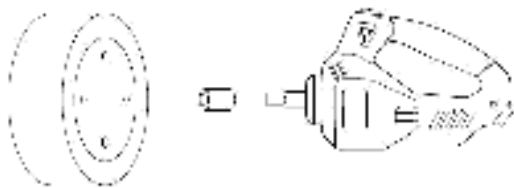

Figure 1
3. Choose the proper socket to attach to the wrench's shaft (check Figure1).